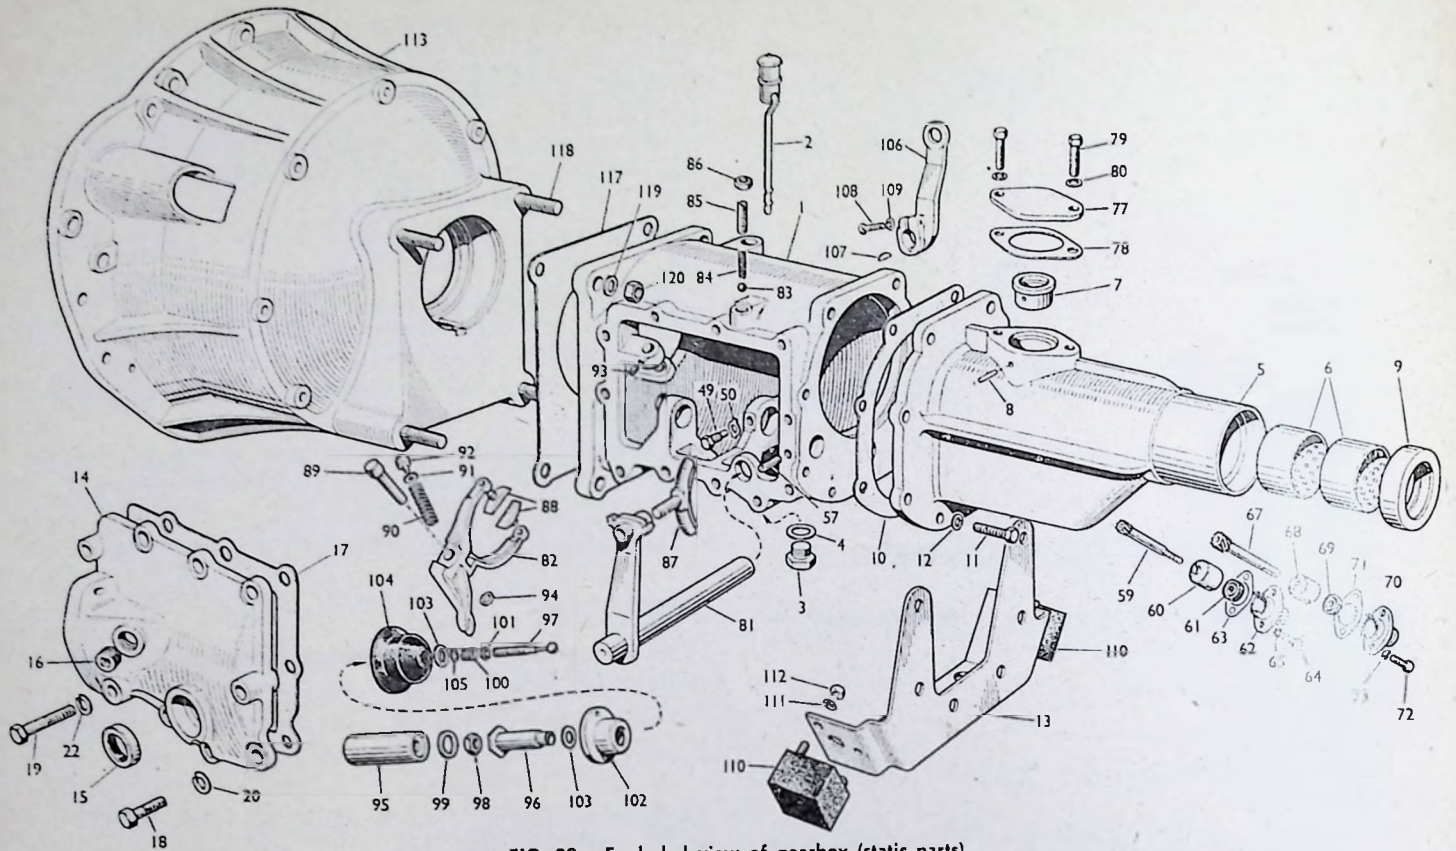

FIG. 39.—Exploded view of gearbox (static parts).
Refer to exploded drawings Figs. 39 and 40 throughout.
Position intermediate sliding dog (38), hub (39) and intermediate gear (37) in gearbox, ensuring that the shift fork shoes (88) engage in the groove in the sliding dog (38, Figs. 39 and 40).
Fit the side cover (14) with paper washer (17). (Fig. 39).